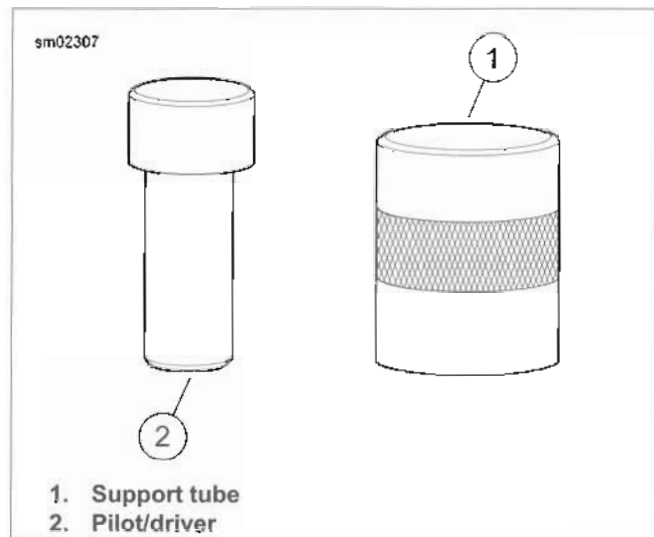

Figure 3-135. Left Main Bearing Remover and Installer Tools
See Figure 3-135. If the ram of the press is wider than the head of pilot/driver (2), a suitable press plug will be needed in order to remove the main bearing.
1. See Figure 3-135. Obtain CRANKCASE BEARING REMOVER/INSTALLER (Part No. B-45655) and REMOVER/INSTALLER SUPPORT TUBE (Part No. HD-42720-5).